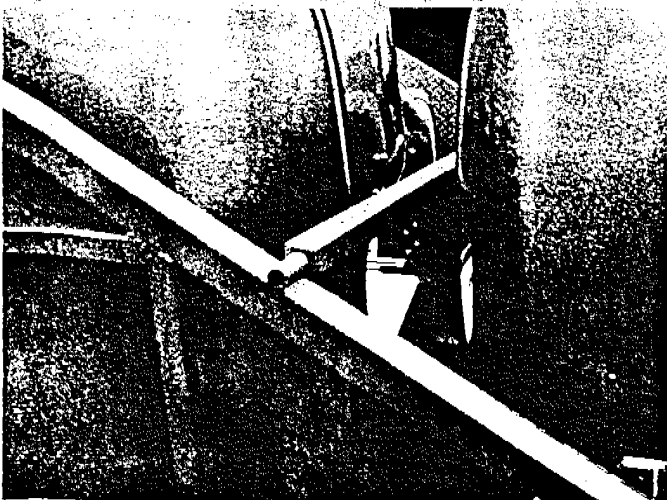

Fig. 15
- (2) Remove the spreader bar. (Fig. 15)